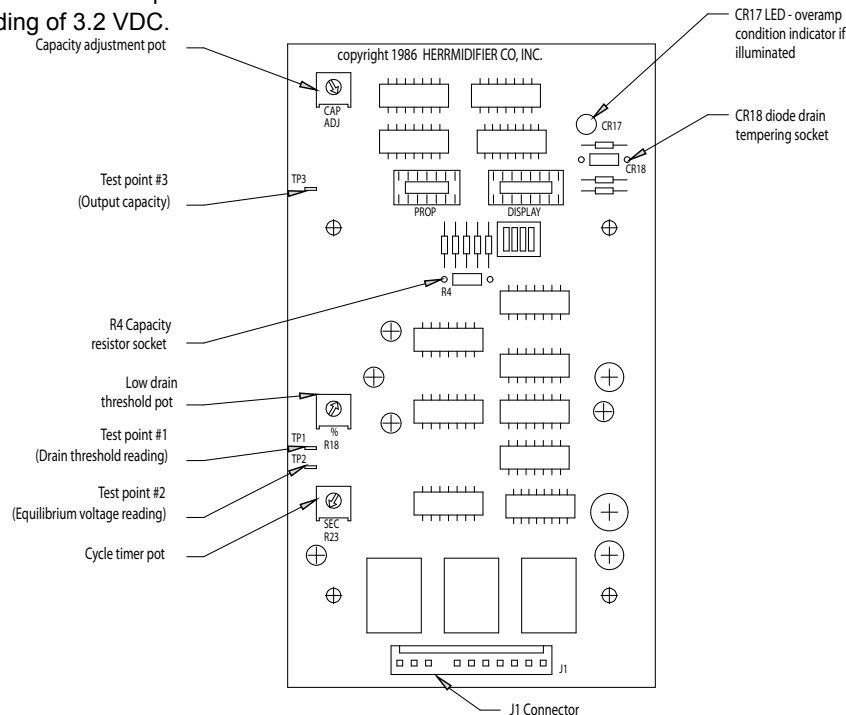

Figure 12
10. All units are equipped with a drain tempering feature which mixes cold fill water with the hot drain water to protect drain piping. Depending on your fill water pressure, some adjustment of the fill metering valve may be necessary to insure drain water of less than 140°F (See Figure 9). To deactivate, remove diode from socket CR18 from circuit board (See Figure 12).
The capacity of the humidifier can be adjusted between 50% and 100% of the maximum level by adjusting the capacity adjustment potentiometer (labeled R39) on the main circuit board. All blower versions are set from the factory to produce 4 lbs/hr. If the psychrometric conditions permit, the 6000—2 may be increased to 8 lbs/hr by adjusting R39 from 50% to 100% capacity. Refer to figure 12.
Each circuit board (See Figure 12) features three test points to aid in the troubleshooting process. Each of these test points works on a 0-4 VDC scale. "0 VDC" = 0%. "4 VDC" = 100%. All readings are between the test point and ground (Molex J1, terminal 11 [far right of molex connector, wire #11]).
Check water supply. If it is softened, increase the drain threshold pot, "% adj." (R18), up to 92%. (See Figure 12)